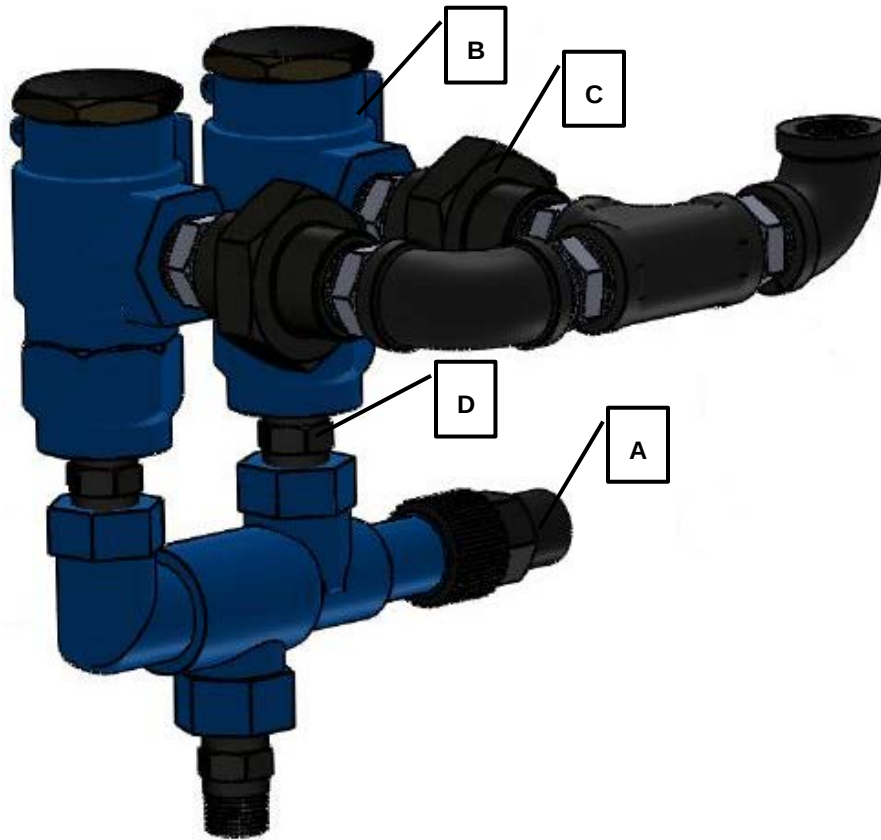

FIGURE 1.18-1: PRV ASSEMBLY
- 2) Turn the valve counter-clockwise to close the near PRV (Figure 1.18-1, [B]).